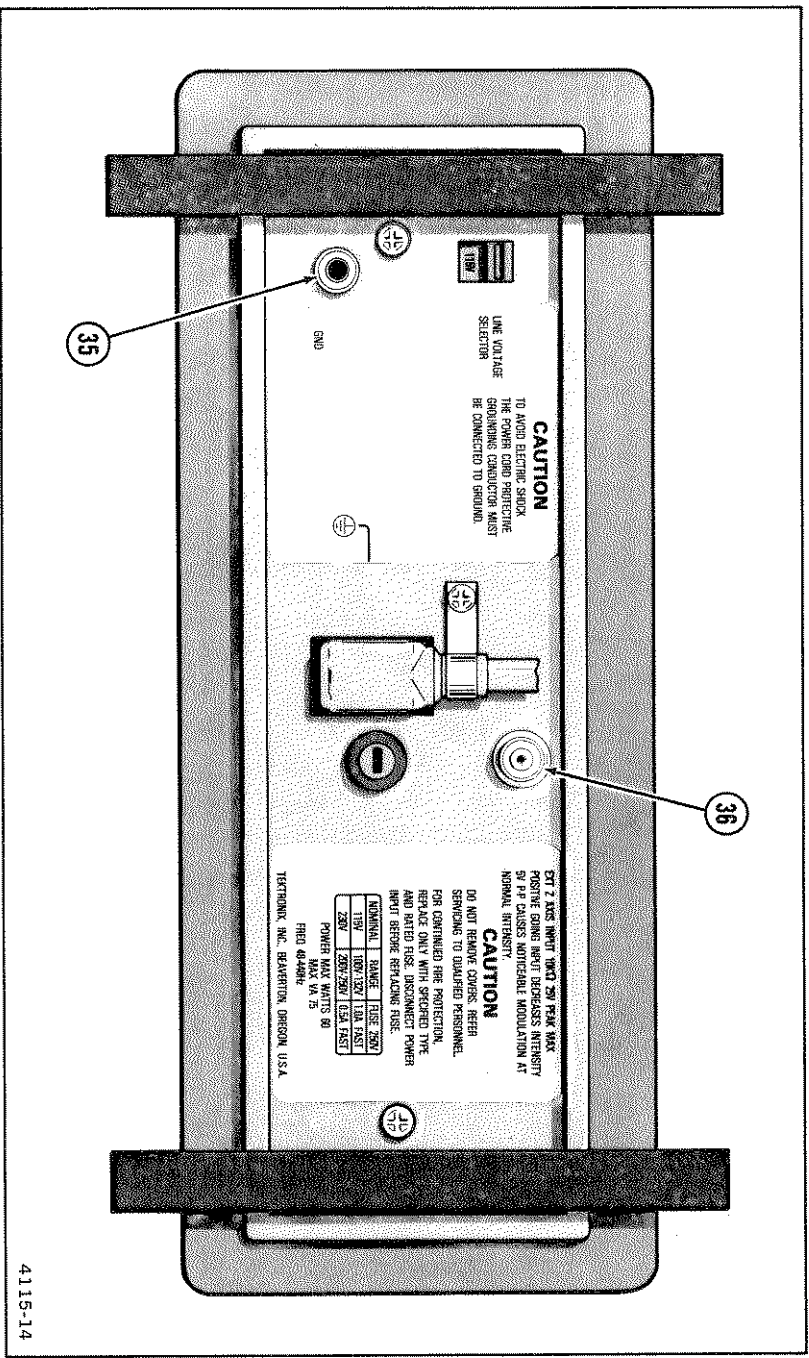

Figure 7. Rear-panel connectors.
Refer to Figure 7 for location of items 35 and 36.